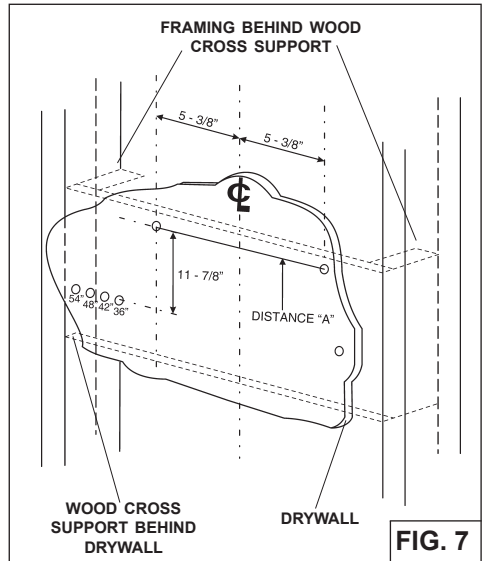

FIG. 7
1. Construct wood wall framing that is flush with interior surface of wall studs (Fig.7).